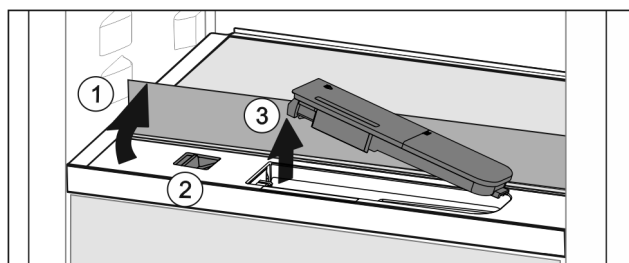

Fig. 46
- ▶ Lift the glass panel and fold towards the rear until it clicks into place Fig. 46 (1).
- ▶ Slide the slider Fig. 46 (2) to the left.
- ▶ Remove the water tank Fig. 46 (3).